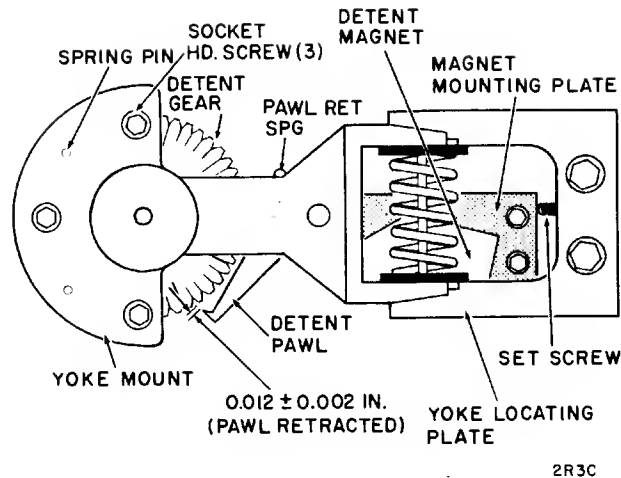

Figure 6-3. Detent Pawl Adjustment
3. Referring to Figure 6-3, remove the two socket head screws securing the yoke locating plate to the actuator casting. Disconnect the pawl retraction spring.
9. Manually pull the detent pawl from the detent gear and check the gap (use feeler gauge) between the tip of the pawl and the top of the adjacent detent gear teeth. The dimension should be  $0.012 \pm 0.002$  inch (Figure 6-3), and at the same time the pawl block must be mated squarely and flush with the detent magnet pole faces. If the dimension is incorrect, loosen the two screws through the magnet mounting plate and adjust the setscrew against the rear edge of the mounting plate to gain the correct dimension. If the pawl block and detent magnet surfaces do not match, reposition the detent magnet. Tighten the two screws.
3. Referring to Figure 6-3, remove the two socket head screws securing the yoke locating plate to the actuator casting.
12. Manually pull the detent pawl from the detent gear and check the gap (use feeler gauge) between the tip of the pawl and the top of the adjacent detent gear teeth. The dimension should be  $0.012 \pm 0.002$  inch (Figure 6-3) and at the same time the pawl block must be mated squarely and flush with the detent magnet pole faces. If the dimension is incorrect, loosen the two screws through the magnet mounting plate and adjust the setscrew against the rear edge of the mounting plate to gain the correct dimension. If the pawl block and detent magnet surfaces do not match, reposition the detent magnet. Tighten the two screws.